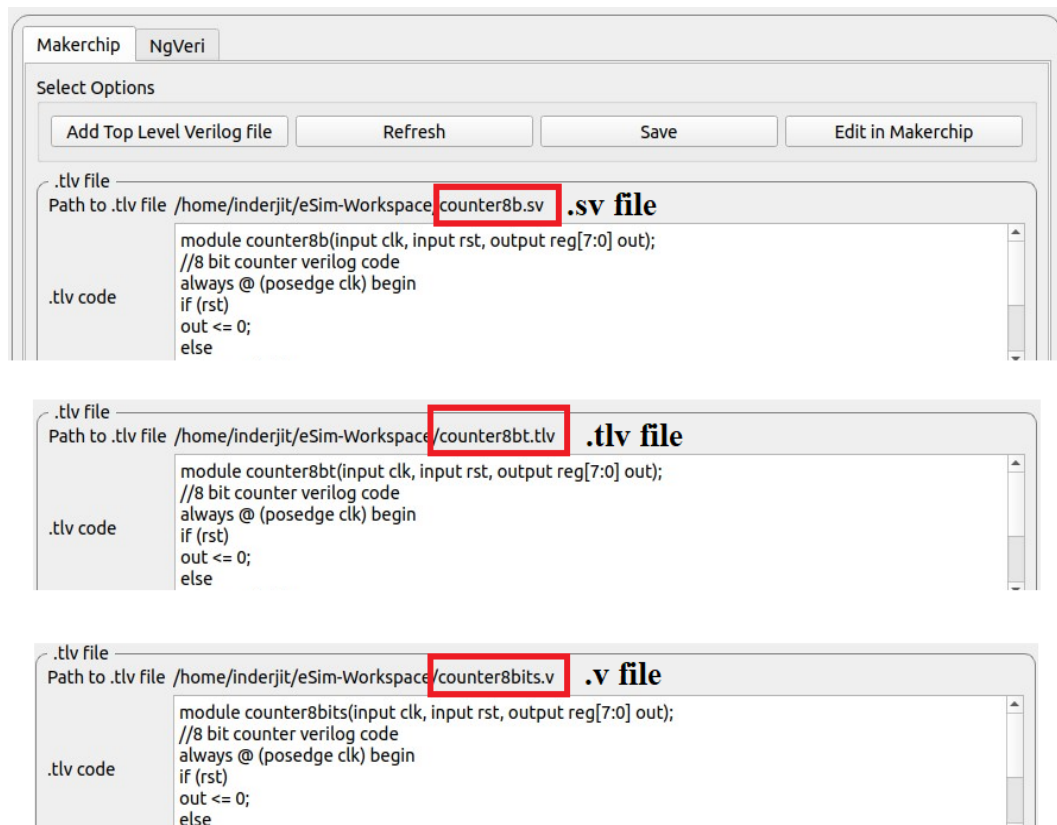

Figure 11.42: File extension allowed in NgVeri
1. In Makerchip tab, when the user clicks on Add Top Level Verilog button to load the file, the allowed file extension's should be either .v, .sv or .tlv as shown in Fig. 11.42. It will not accept any other file extension.